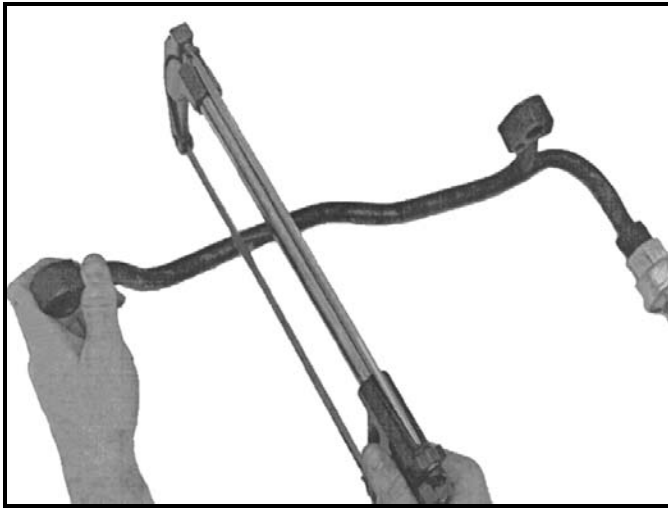

Figure 1
2. Using a hacksaw cut the AIR crossover tube in the straight section. See Figure 1.